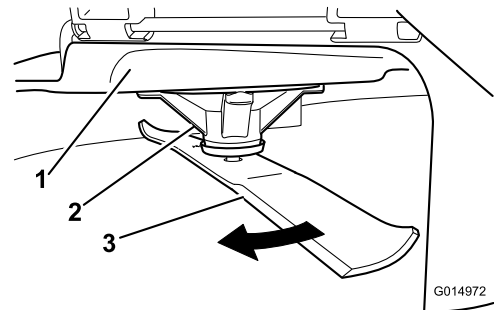

Figure 66
2. While wearing thickly padded gloves, or other adequate hand protection, slowly rotate the blade into a position that allows you to measure the distance between the cutting edge and the level surface the machine is on (Figure 66).